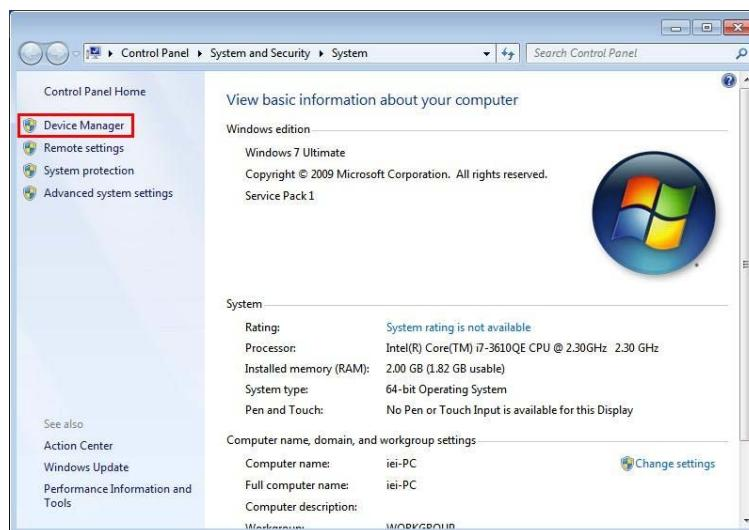

Figure 6-14: System Control Panel
- Step 2:** The system control panel window in Figure 6-14 appears.
- Step 3:** Click the Device Manager link (Figure 6-14).